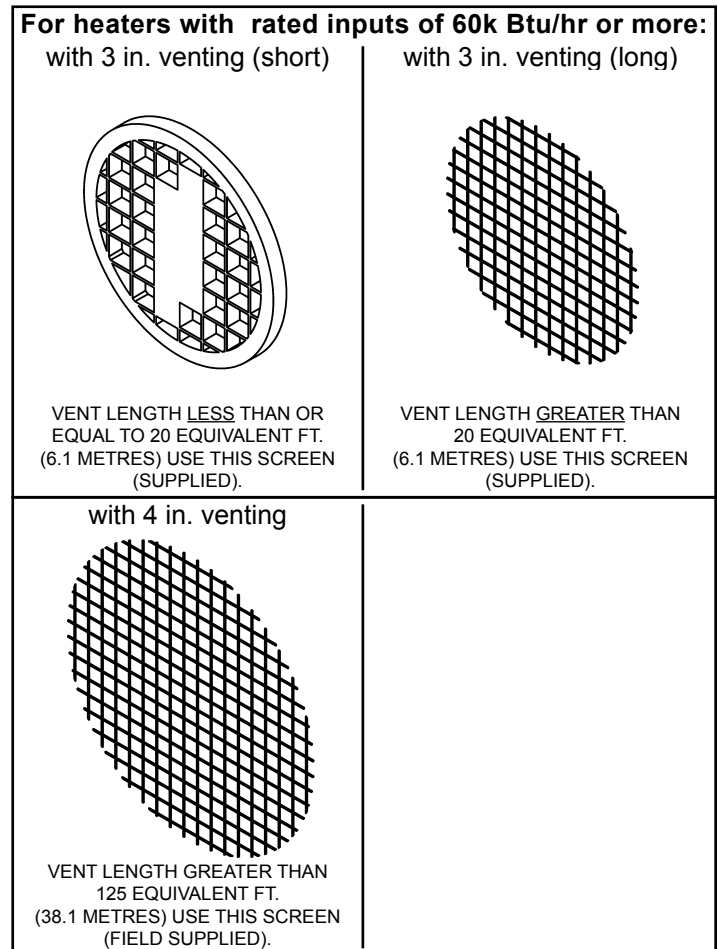

Figure 15
- 50 and 75-gallon heaters with rated inputs of 60k Btu/hr or more are supplied with a 3" termination elbow, a plastic "rodent screen" and a wire mesh "rodent screen" (see Figure 15).
- For heaters with rated inputs of 60k Btu/hr or more see Figure 15.